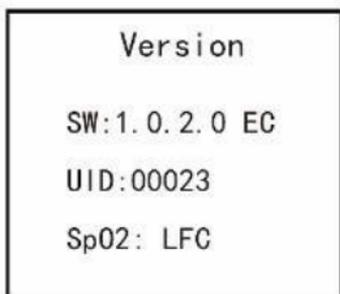

Figure 4.10H Version info
- **TEMP unit:** To set the temperature unit, “°C (Celsius)” and “°F (Fahrenheit)” for option, the factory default is “°F”, as shown in figure 4.10H.